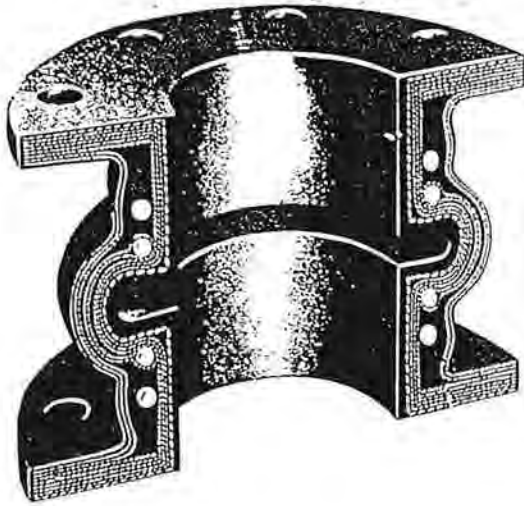

Fig. 6-12. Expansion joint.
6.32 The expansion joint shown in Fig. 6-12 has a leakproof tube that extends through the bore and forms the outside surfaces of the flanges. Natural or synthetic rubber compounds are used, depending on the application. Because the fitting has full-face flanges of vulcanized rubber and fabric, no gaskets are necessary. The sealing surface permits low bolting-pressures and tends to equalize uneven surfaces to which it is connected, providing a tight seal. An installation is shown in Fig. 6-13.